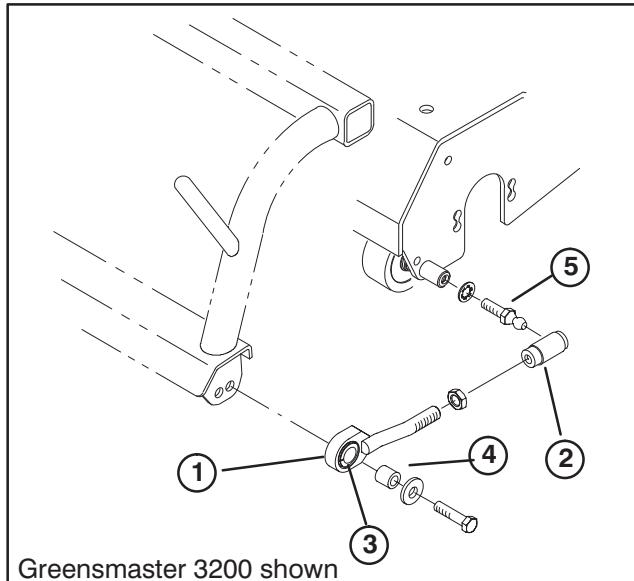

**Figure 4**
2. Slide tri-roller under traction unit pull frame while hooking lift roller onto lift arm (Fig. 4).